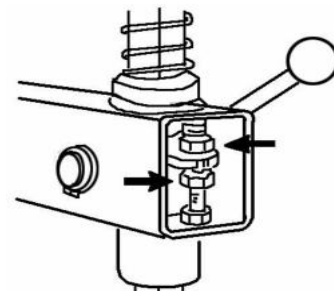

Fig.19.
- f. If it is necessary to adjust the vertical arm locking plat because the tool doesn't lock or it doesn't rise from the rim of 2mm necessary for working, adjust nuts as shown in figure 19.